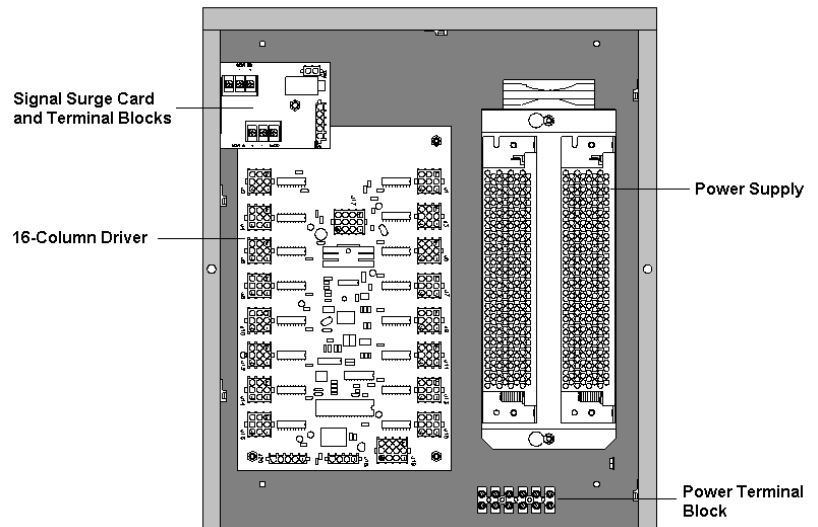

Figure 15: 16-Column Driver Enclosure
4. Remove the screws, nuts, or wing nuts securing the driver to the inside of the enclosure. Refer to **Figure 15**.